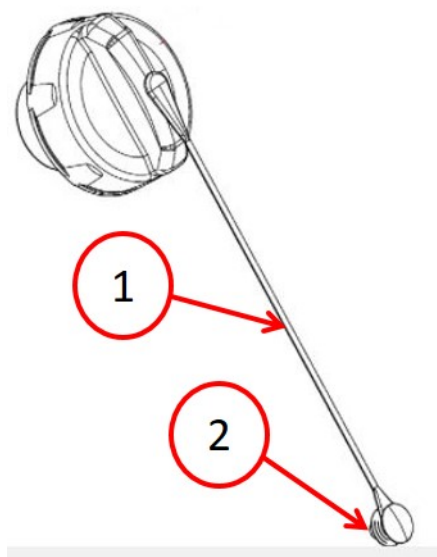

Fig. 1
2. Using a trim stick tool, remove the fuel filler cap tether fastener (Fig. 1) from the vehicle.
3. Remove the fuel filler cap (Fig. 1) from the filler tube.
4. **Cut the existing tether near the base that is mounted in the back of housing and discard cap/tether (Fig. 1) .
7. Install the new fuel filler cap tether (Fig. 1) on the fuel filler cap.
8. Install the fuel filler cap (Fig. 1) on the filler tube.